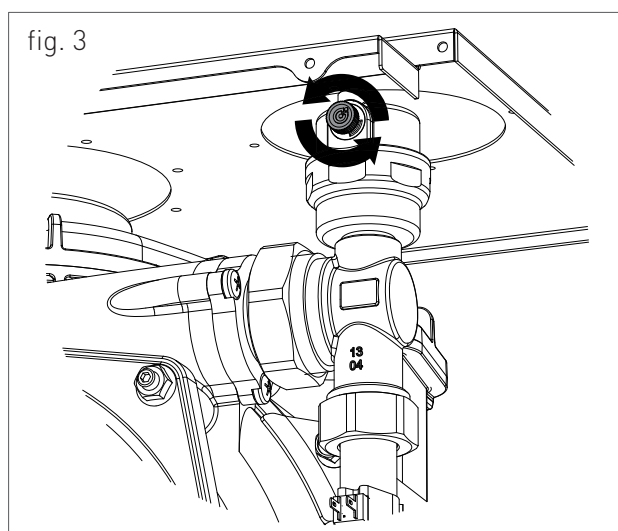

fig. 3
3. slightly loosen the cap of the jolly valve placed on the top of the condensing block (fig. 3) to release the air from the top of the system;